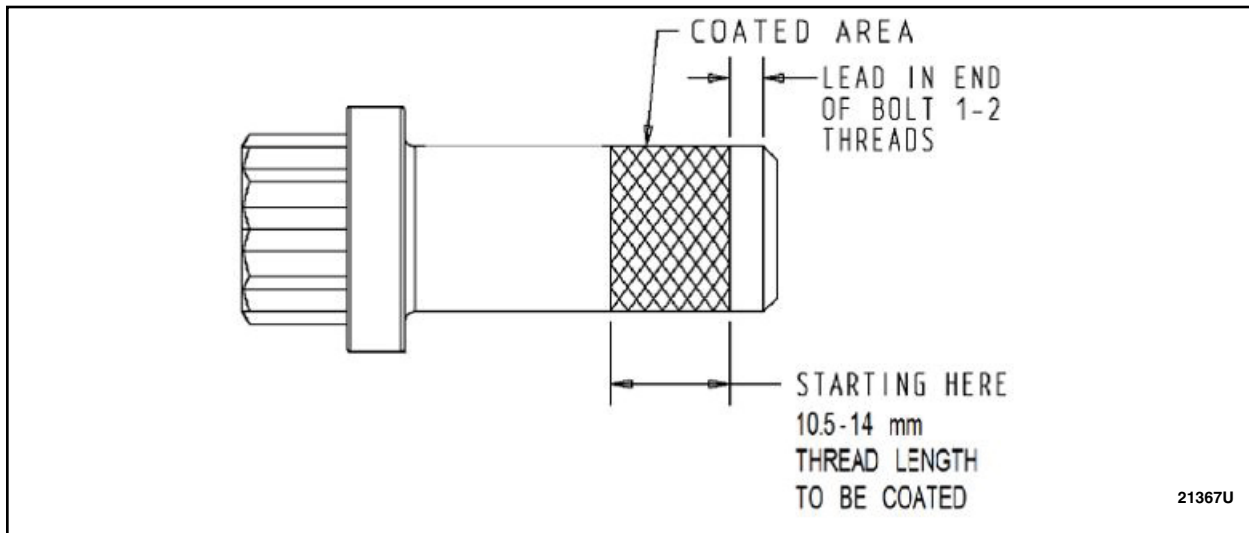

FIGURE 12
15. Inspect the original driveshaft flange to pinion flange bolts for rust in the threads and replace if rusted or damaged. Clean threads of the original driveshaft flange to pinion flange bolts with a wire brush and coat the threads with LOCTITE 243 Blue Medium Strength Threadlocker or equivalent. See Figure 12.